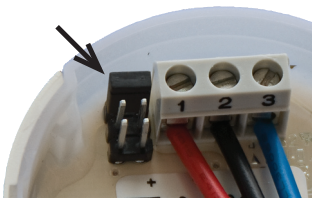

Fig. 11a
3. To change setting re-insert black pin cap as shown below (See Figures 11a, 11b and 11c).
- a. To set at 30-300 FC insert black pin cap over top two pins, placed horizontally as shown (See Figure 11a).